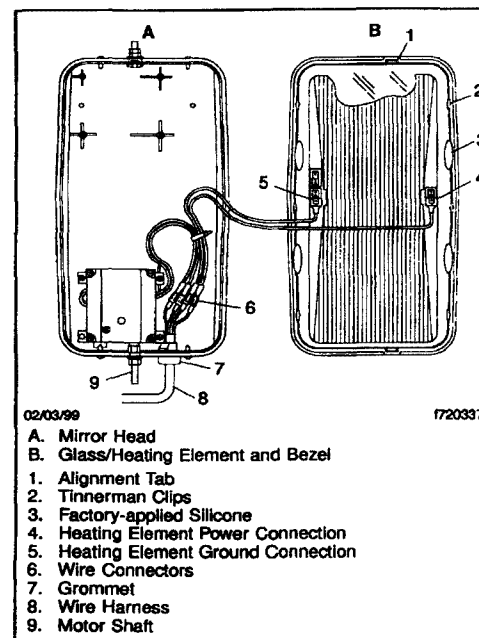

**Fig. 7**
3. Remove any tape from the perimeter of the bezel. Remove the two screws on both the top and the bottom of the mirror head. See Fig. 7.